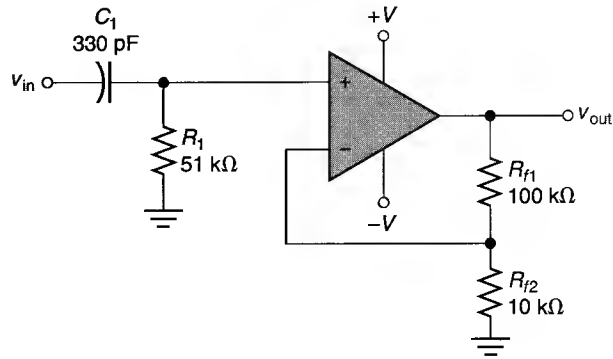

FIGURE 17.48
13. Calculate the lower cutoff frequency and closed-loop voltage gain of the filter in Figure 17.48.